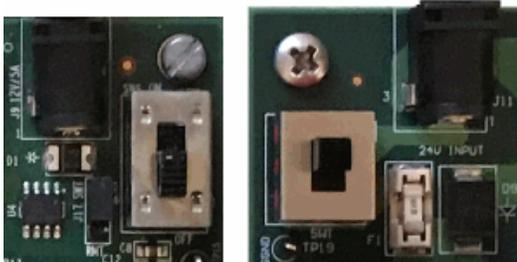

Figure 5. RTG4 Development Kit (left) and LX7720 Daughter Board (right) power switches in OFF positions
- Power the RTG4 board with its 12V output AC adaptor, and the LX7720 board with its 24V output AC adaptor (Figure 5 below)